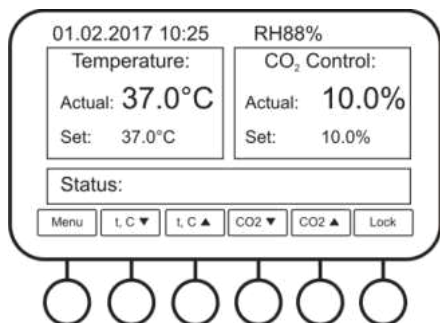

Figure 1. Working screen
- 5.2. After initialization, display (fig. 1) shows: